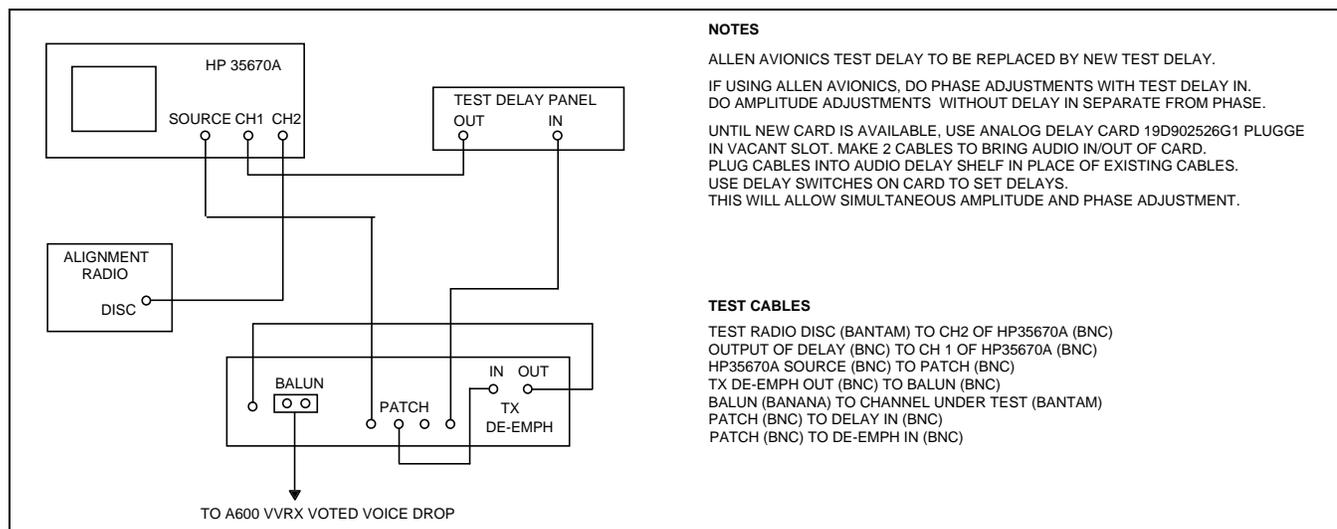

Figure 10. Simulcast Alignment Test Setup Using HP 35670A Sweep Analyzer
3. Set up cabling between HP 35670A, Delay Panel, Test Radio, and Balun Panel as shown in Figure 10.